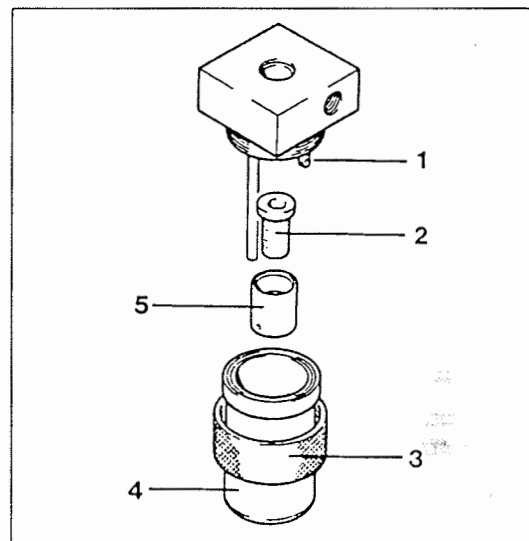

Fig. 7 Intermediate separator
An intermediate separator is mounted on the compressor between 2nd and 3rd stage. It is designed to remove water and oil accumulating due to cooling the compressed medium down after the compression process. Separation is achieved by means of a nozzle (1, Fig. 7). A sintered metal filter (2) is provided additionally to remove dirt contamination.